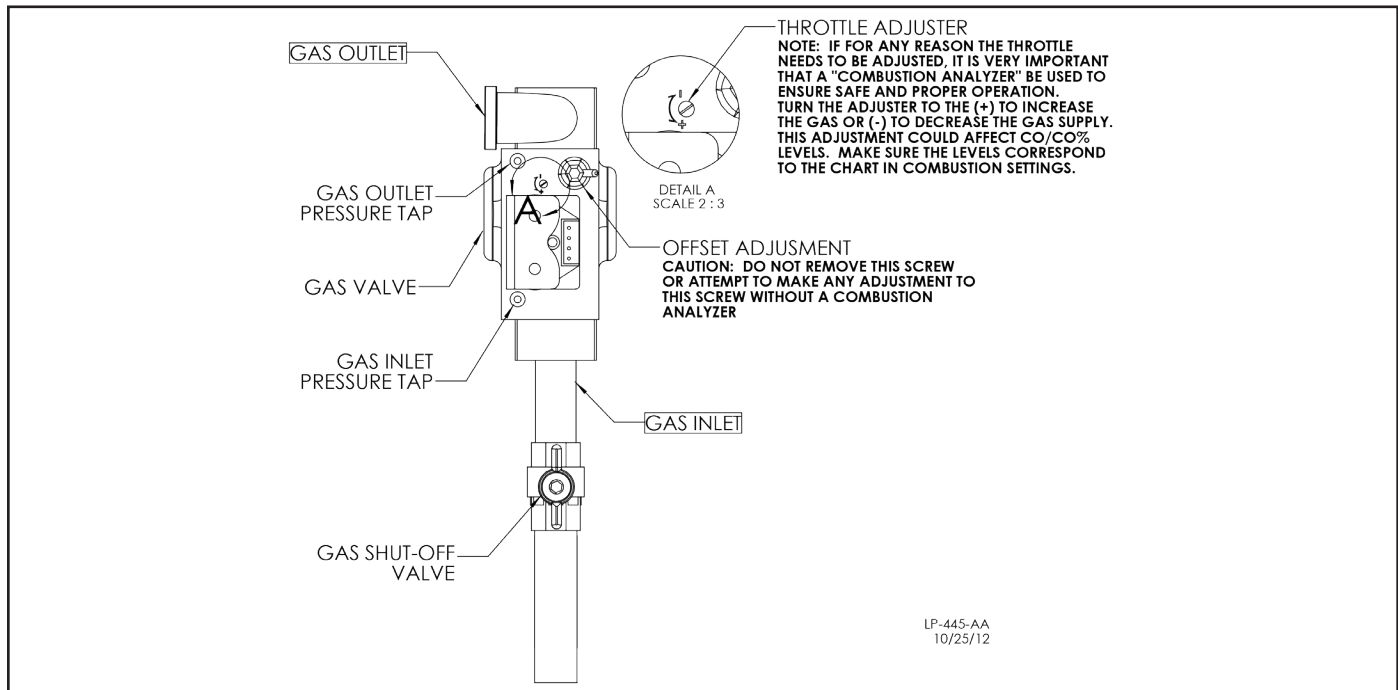

Figure 29 - 500 Model Gas Valve
2. Loosen the pressure tap with a small screwdriver. Refer to Figures 29 and 30 for location.